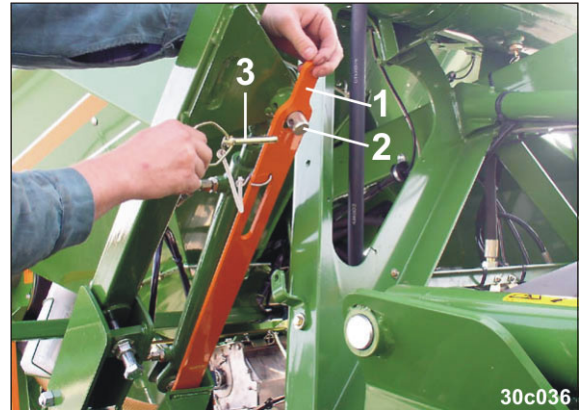

Fig. 157
3. Fit the lug (Fig. 157/1) on the journal (Fig. 157/2) of the marker and secure the connection with the linch pin (Fig. 157/3).